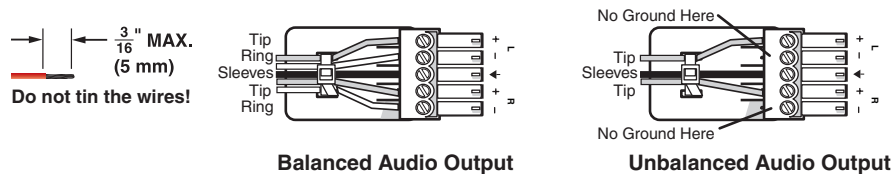

Figure 5. Analog Output Connector Wiring
- E Analog audio output** — Connect an audio output device to this 5-pole 3.5 mm captive screw connector (see figure 5). This connector outputs a 2-channel stereo analog audio format.